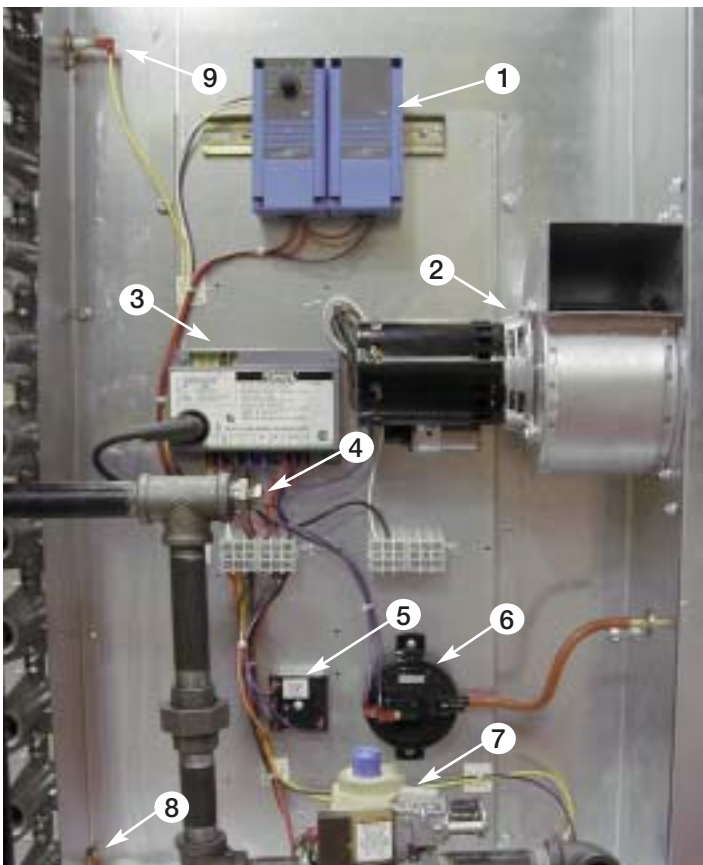

Figure 2: Furnace Control Center
5. With the furnace control center access panel removed, connect a "U" tube manometer to the manifold pressure test port as shown in Figure 2. This will be used for checking the manifold gas pressure.
2. Measure the burner manifold pressure at each furnace at the pressure test port (see Figure 2) using a high quality manometer that can measure low gas pressures. The pressure at high fire should be 3.5 in. wg for natural gas and 10.0 in. wg for LP Gas. To change the pressure, adjust the high fire screw on the combination gas valve.